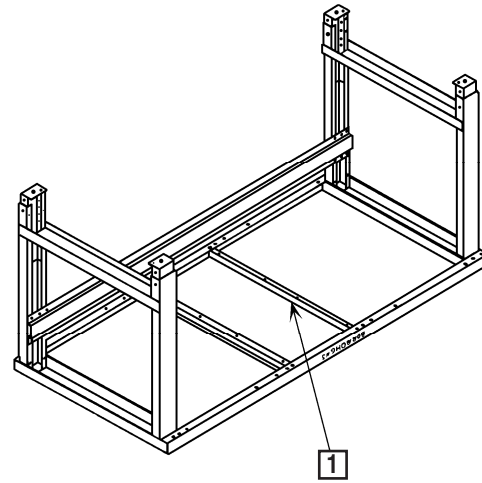

FIGURE 22
- Place the tier drawer support (Item 1) on the underside of the bench top with the flange that has the holes facing upward. Position the tier drawer support so that the support is perpendicular to the front and back flanges of the bench top. The ends of the drawer support are under the bench top flanges and the open channel of the tier drawer support must be facing outward. See Figures 22 & 23. Repeat procedure with the other tier drawer support(s).